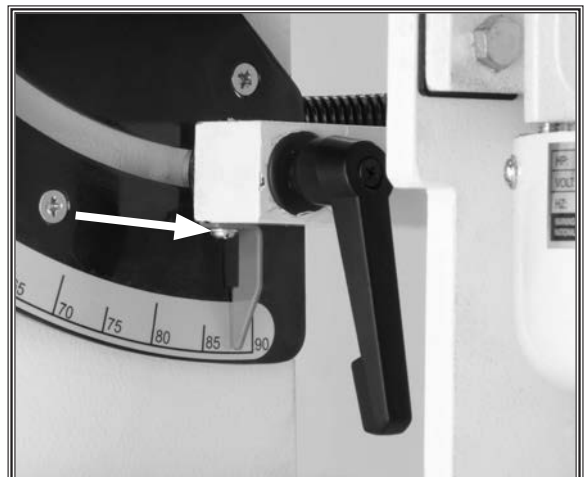

Figure 38. Angle indicator pin screw.
5. Loosen the angle indicator pin screw, shown in **Figure 38**, a 1/2 turn.